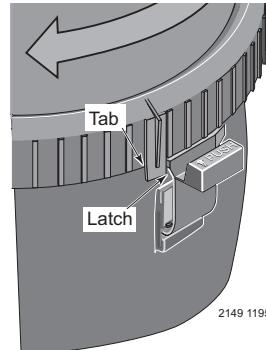

Figure 3 – Rotate Posi-Lok™ Ring until tab locks behind the safety latch.
1. Securely lock Posi-Lok™ ring in place by rotating ring CLOCKWISE until it "clicks" past the safety latch (see Figure 3). Stop turning as soon as the ring clicks past the latch. The ring may feel slightly loose, but it will tighten up when pump is on and filter is under pressure.
- d. Rotate the Posi-Lok™ clockwise until it locks behind the safety latch (see Figure 3).